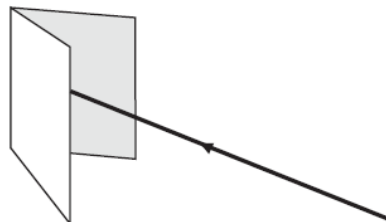

Figure 2-2: Folded Metal Beam Target
- Set up a beam dump to capture the laser beam and prevent accidental exposure (Figure 2-2).